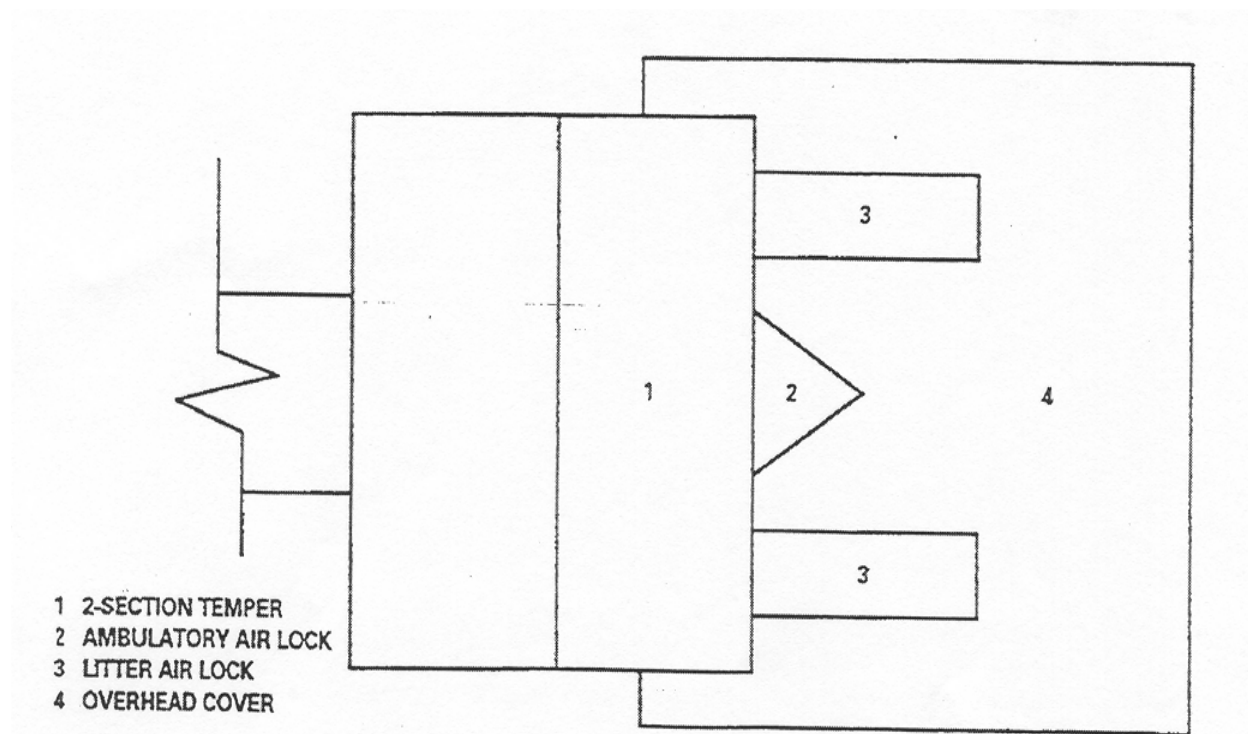

Figure 1-2. Overhead cover.
a. The overhead cover should be at least 20 feet x 50 feet. It should be erected to cover the decontamination area and the clean waiting and treatment area. When the protective shelter is used, the overhead cover should overlap the airlock entrance (see Figure 1-2).